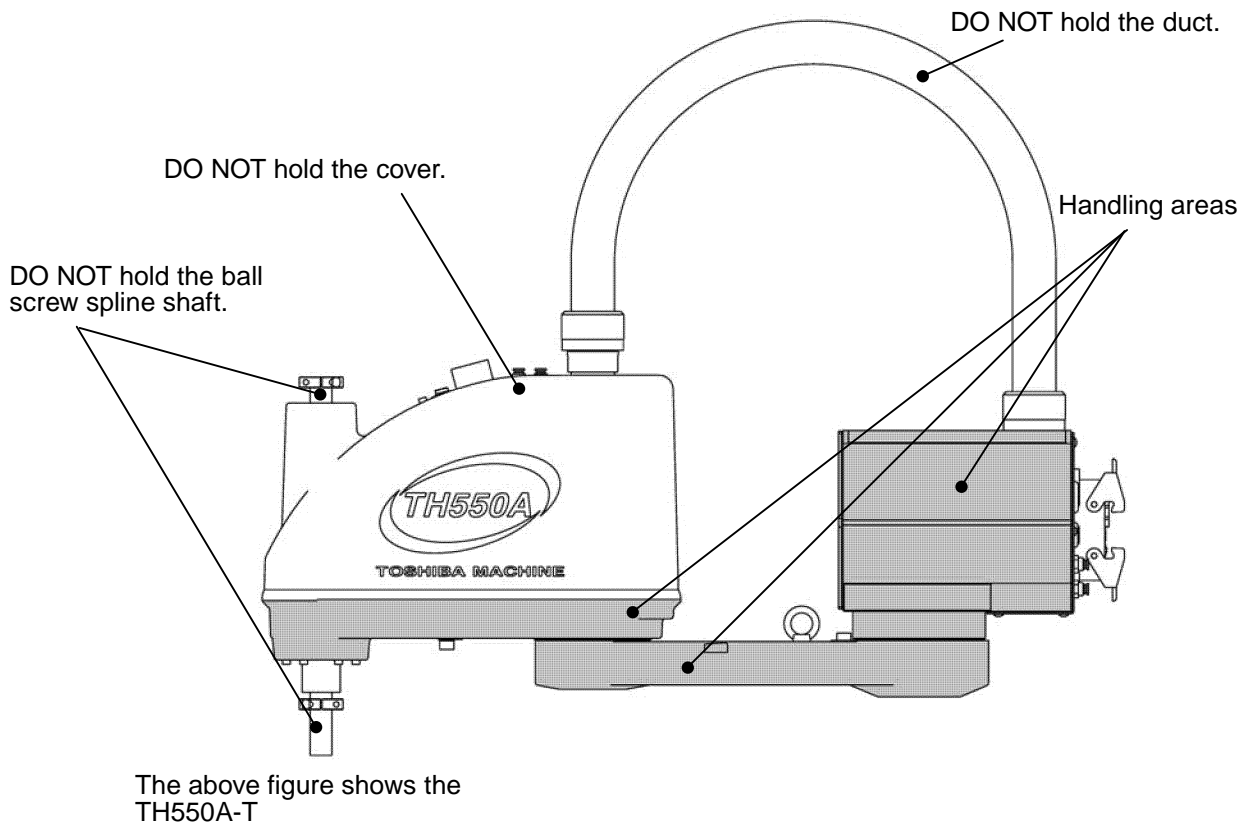

Fig. 2.5 Robot handling areas
- When lifting up the robot by workers, hold the specified locations by hand, as shown in Fig. 2.5. If the arm 2, cover, or ball screw spline shaft is held by hand, an unusually large force is exerted, resulting in a malfunction.
- The work should be performed by two (2) or more workers.